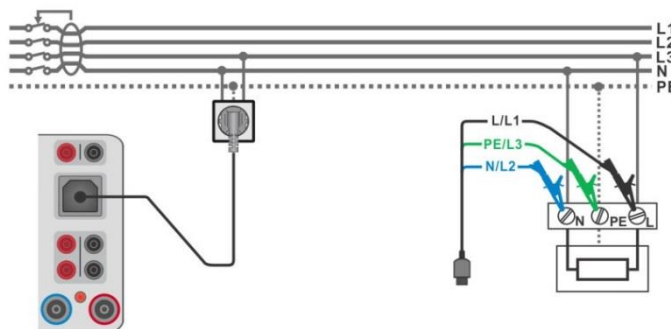

Figure 6.122: Connecting the Plug test cable or the 3-wire test lead
- ▶ Connect 3-wire test lead or Plug test cable to the object under test, see **Figure 6.122**.
See **Figure 6.122: Connecting the Plug test cable or the 3-wire test lead** for details.